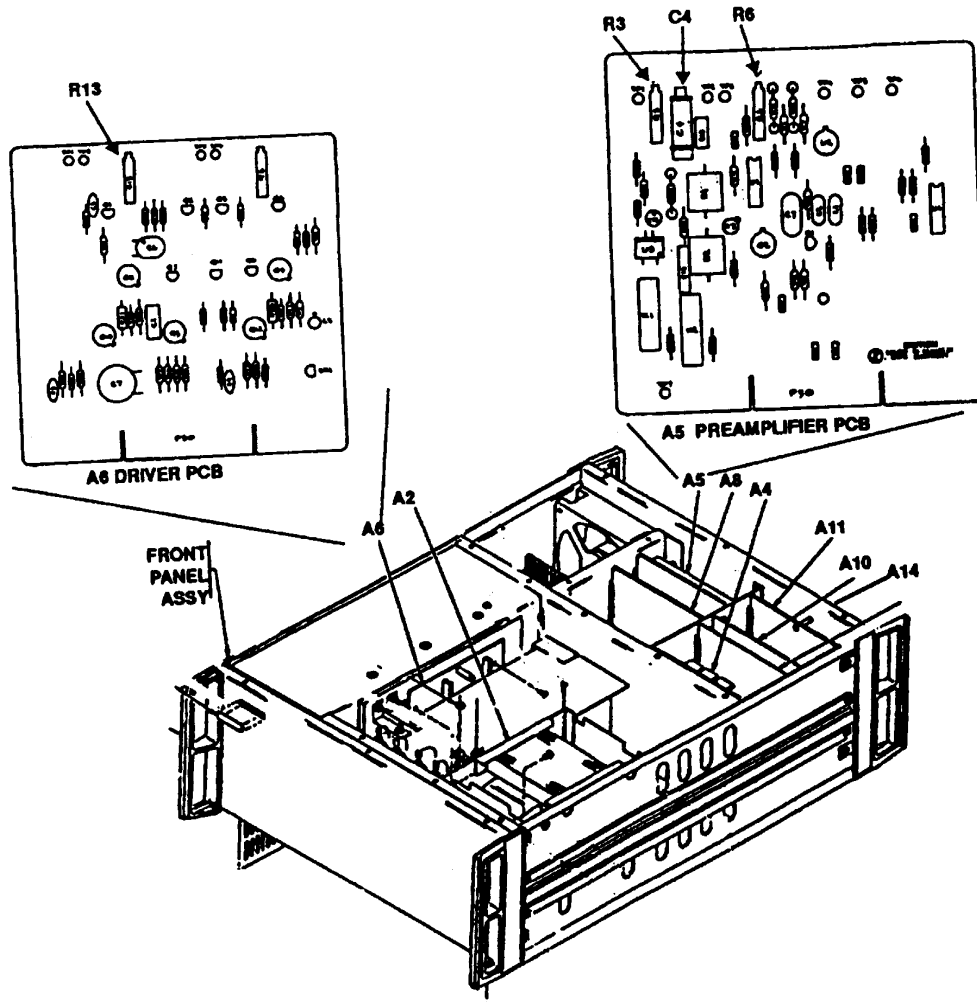

Figure 20. John Fluke, Model 5220A/CT - board location.
- h. Set to **OPR** mode. Multimeter will indicate $0 \pm 100 \mu\text{V}$ dc; if not, adjust R6 on the A5 preamplifier PCB assembly (fig. 20).
(1) Set TI to **STANDBY**; then set TI for a 10 A, 1 kHz output.
(2) Allow 3 minutes for stabilization; set a new reference on ac measurement standard by pressing **CLEAR REF. INPUT 1** soft key, then press **SET REF** soft key.
(3) Change TI output frequency to 5 kHz; wait 1 minute, then adjust C4 on A5 PREAMPLIFIER PCB (fig.20) for a zero (± 0.010 PCT) **Error** indication on ac measurement standard. (R)